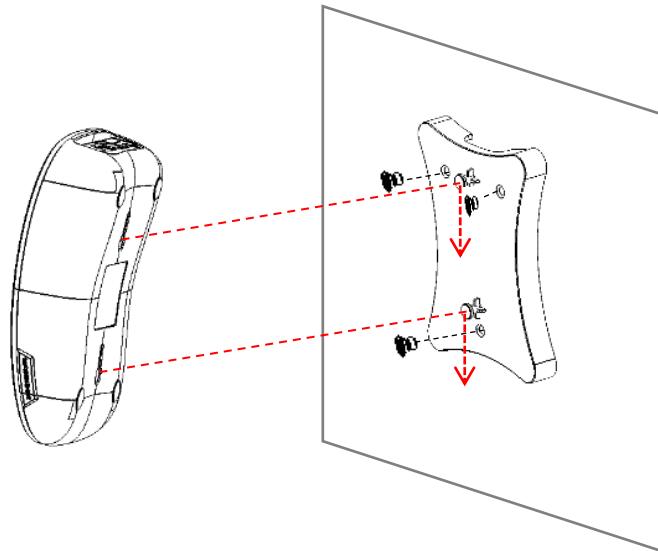

Figure 2-1. S1 Gateway Mounting
- ❶ Select a proper space to drill 3 holes upon the mounting holes of the wall-mount bracket shipped with the package.
- ❷ Insert the screws supplied through the wall-mount bracket and into the holes on the wall.
- ❸ Tighten the screws with the screwdriver to secure mounting brackets to the wall.
- ❹ Lock downward carefully to secure S1. (See the arrow of Fig. 2-1 )
- ❺ Arrange and hide cables under the bottom notch of the bracket if needed.